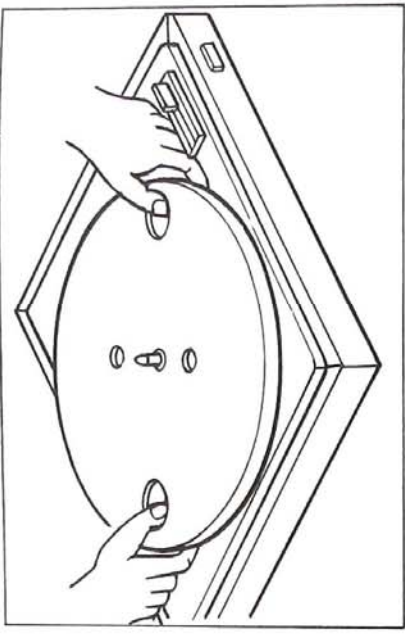

Fig. 2-2. Turntable platter removal
2. Insert your both thumbs into the two holes of the turntable as shown in Fig. 2-2.